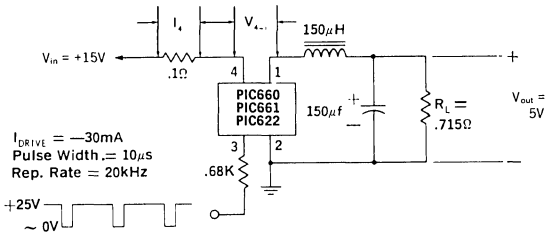

Figure 1. PIC660, 661, 662 Switching Speed Circuit
2. The efficiency is a measure of internal power losses and is equal to Output Power divided by Input Power. The switching speed circuit of Figure 1., in which the efficiency is measured, is representative of typical operating conditions for the PIC600 series switching regulators.